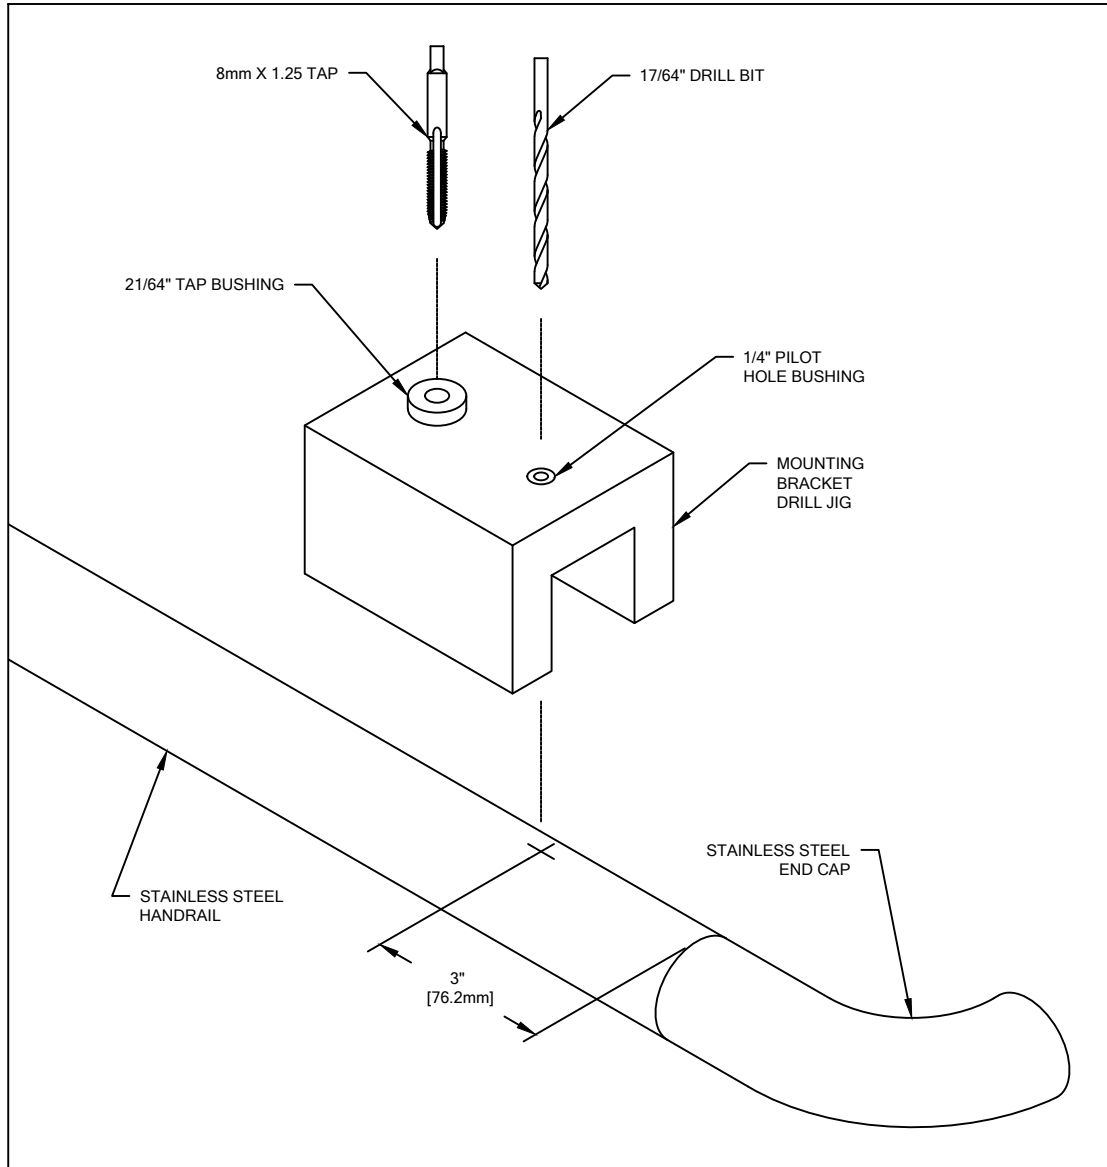

FIGURE 1.
- DRILL PILOT HOLES IN BOTTOM SURFACE OF STAINLESS STEEL HANDRAIL AS PER MOUNTING BRACKET DRILL JIG INSTRUCTIONS (SEE FIGURE 1). MOUNTING BRACKETS ARE TO BE LOCATED AT A MAXIMUM OF 32" [812.8mm] O.C. AND NO LESS THAN 3" [76.2mm] FROM END OF STAINLESS STEEL HANDRAIL. **CAUTION: BE SURE THE HANDRAIL DOES NOT ROTATE WHEN DRILLING PILOT HOLE.**
MOUNTING BRACKET DRILL JIG INSTRUCTIONS. REFER TO FIGURE 1.